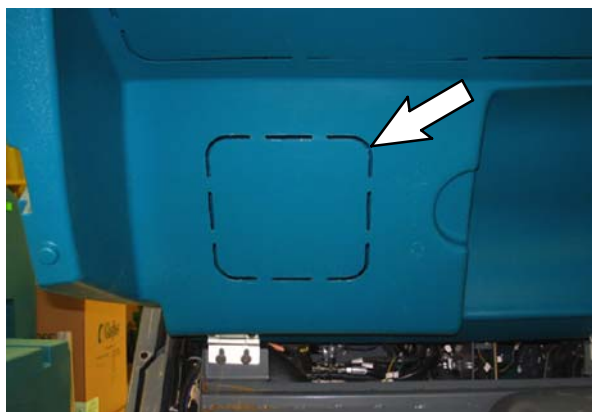

FIG. 1
1. Cut the perforated section from the interior of the hopper cover. Refer to Fig. 1.